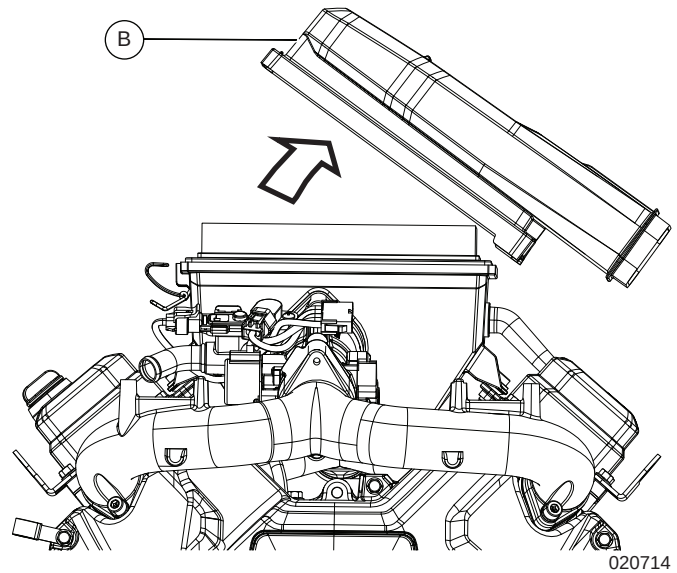

Figure 6-6. Remove Airbox Cover
2. See Figure 6-6. Tip air box cover (B) away from hatch to release air box cover from connecting tabs on opposite side.